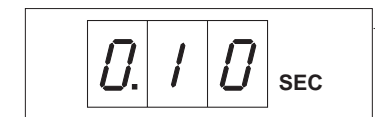

Fig. 5
- (6) Make adjustment with ND filters so that the shutter speed becomes 0.25-0.07 seconds. (See Fig. 5.)